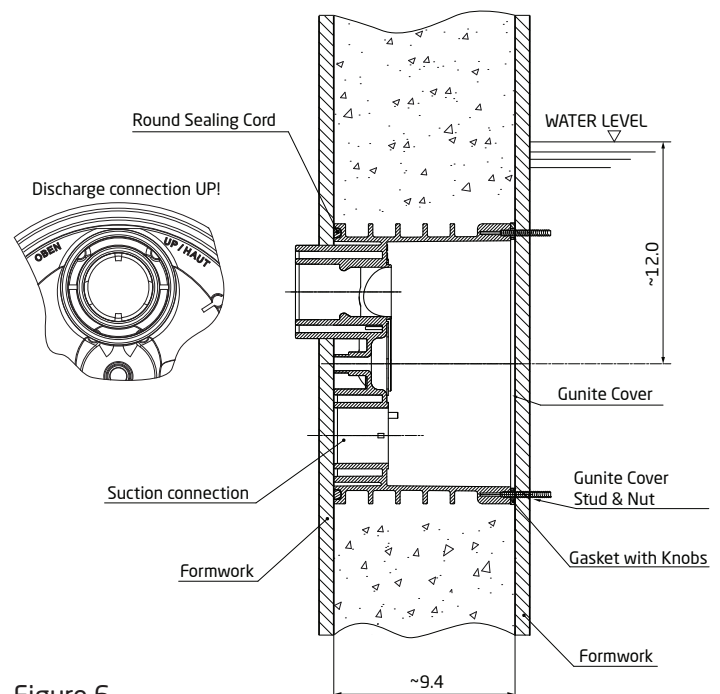

Figure 6
- Place the jet housing between the steel rebar with the back of the jet housing against the hole in the outer wall formwork. Jet housing location is very important (See Figure 6).
- Mount the gunite cover to the front of the jet housing using the four (4) M8 x 80mm studs (part #31), four (4) M8 washers (part #32) and four (4) M8 nuts (part #33). Tape the edge of the gunite cover around the entire jet housing to keep gunite out of threaded inserts and out of the jet housing.
- Place the jet housing between the steel rebar. Jet housing location is very important (See Figure 6).